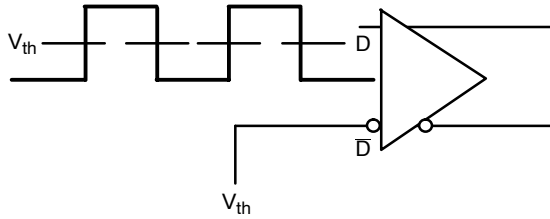

Figure 10. Differential Input Driven Single-Ended
**DIFFERENTIAL INPUT DRIVEN SINGLE-ENDED** (Figures 10, 12)